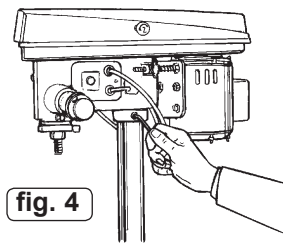

fig. 4
- 5.1.8. Fit the two set screws in the right side of the head to lock it into position and tighten with hex. key (fig.4).